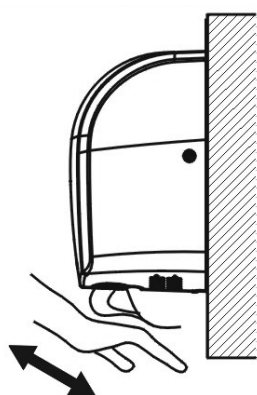

fig. 6
2. When you hands reaches within 10cm to the nozzle, the hand dryer will automatically sense it and start to blow warm air. Follow the instructions as showed in Figures 6, 7, and 8 till your hands are dry. It will stop operation after 1 second after you hands move away. If the hand dryer continues to operate for 1 minute, the air flow will stop; it may be restarted when the sensing process is activated again.